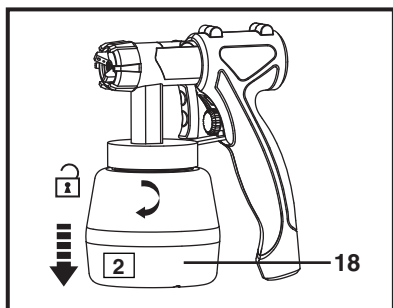

Fig. 12
- > Empty all paint from the cup (18) by pouring it into another container. Thoroughly clean the cup (18) with a suitable cleaning agent, which does not contain oil.
- > Fill cleaning agent into the cup (18), switch on the product and spray it through the spray head (20) until the cleaning agent exits as a clear, transparent mist.
- > Switch off the product, disconnect it from the power supply and remove the cup (18) from the spray gun (Fig. 12).